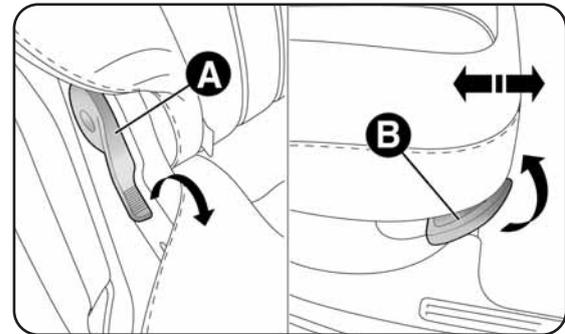

fig. 58
- operate one of the levers A-fig. 58 to fold back the required backrest (to make this procedure easier, move the seat slightly forward using lever B);
To further extend the luggage compartment, the rear seats can be pushed forwards by operating handle B-fig. 58. **IMPORTANT** In order to achieve a uniformly flat load platform, the head restraints should be placed in the fully extended position before the seats are folded back.
Move the seat belts to the side, making sure that they are correctly extended and not twisted. Press levers A (fig. 58), lift up the backrests and push them backwards until you hear a click from both attachment mechanisms.
Use handle B (fig. 58) to move the seats back until you hear a click.